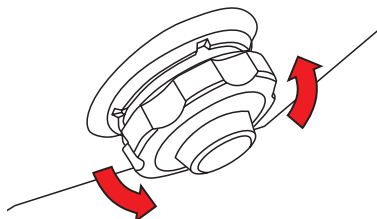

Fig.6
- a) unscrew the valve (fig. 6),